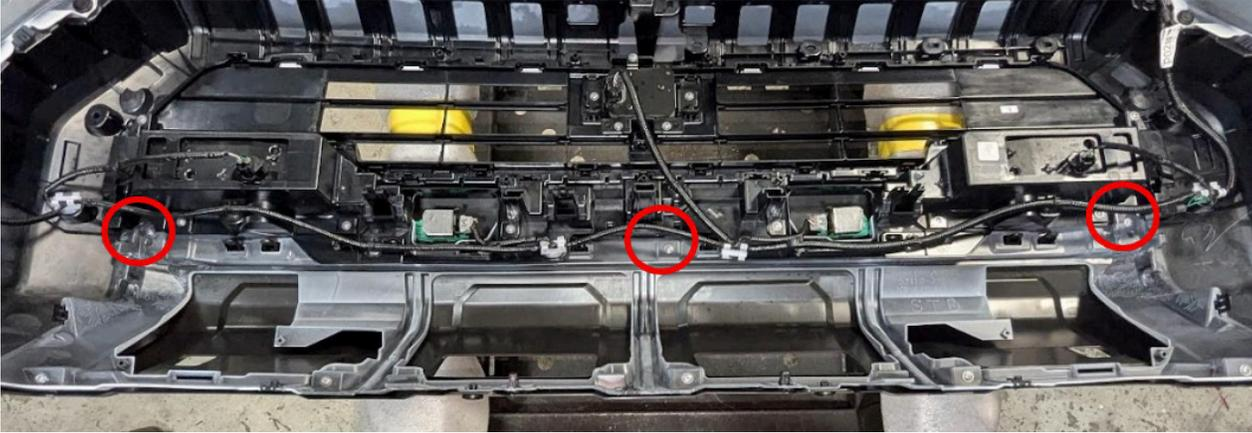

Figure 32
21. Using a Phillips head screwdriver, reinstall three (3) of the previously removed screws to resecure the fascia. (Figure 32)